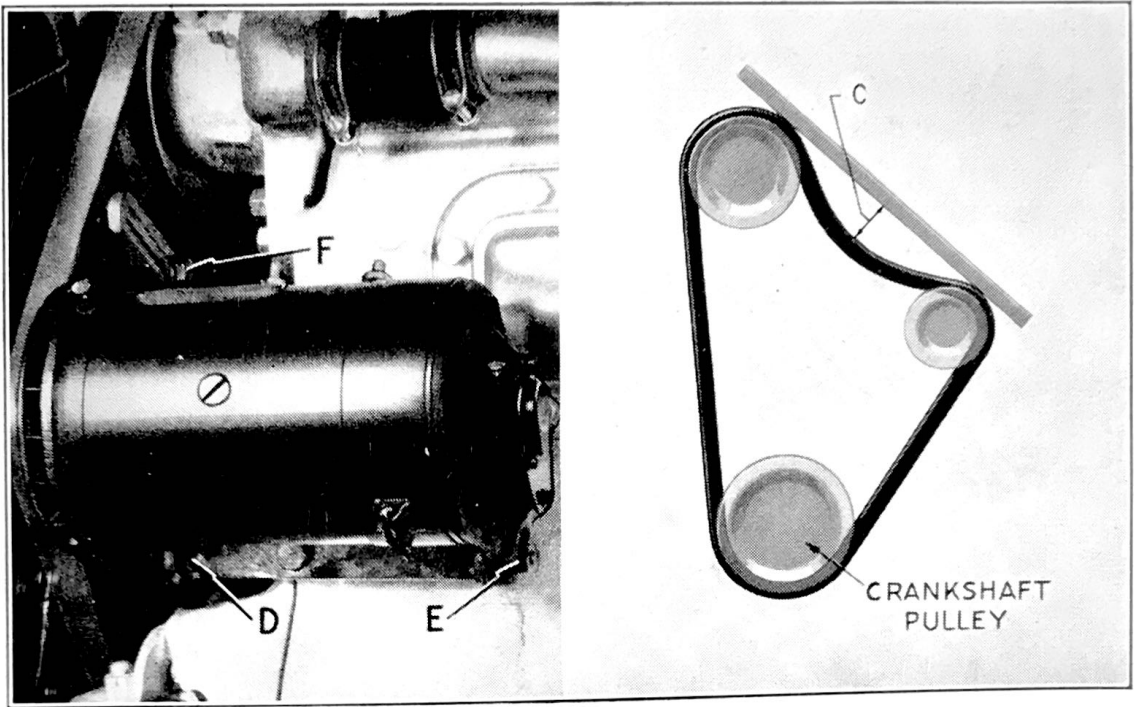

Figure 22
The belt may be adjusted to its proper operating tension by loosening mounting bolt nuts (D, E and F), Fig. 22, and swinging the generator outward to increase tension and inward to decrease tension. It should be possible to depress the belt approximately $\frac{3}{4}$ ", as shown at (C). Be sure mounting bolt nuts are properly tightened after adjustment.